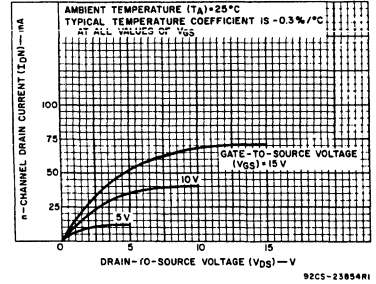

Fig. 5— Typical n-channel drain characteristics for Q output.
** If more than one unit is cascaded in single-phase parallel clocked application, $t_r\text{CL}$ should be made less than or equal to the sum of the propagation delay at 15 pF, and the transition time of the output driving stage, (See Figs. 5 and 7 for cascading options.)